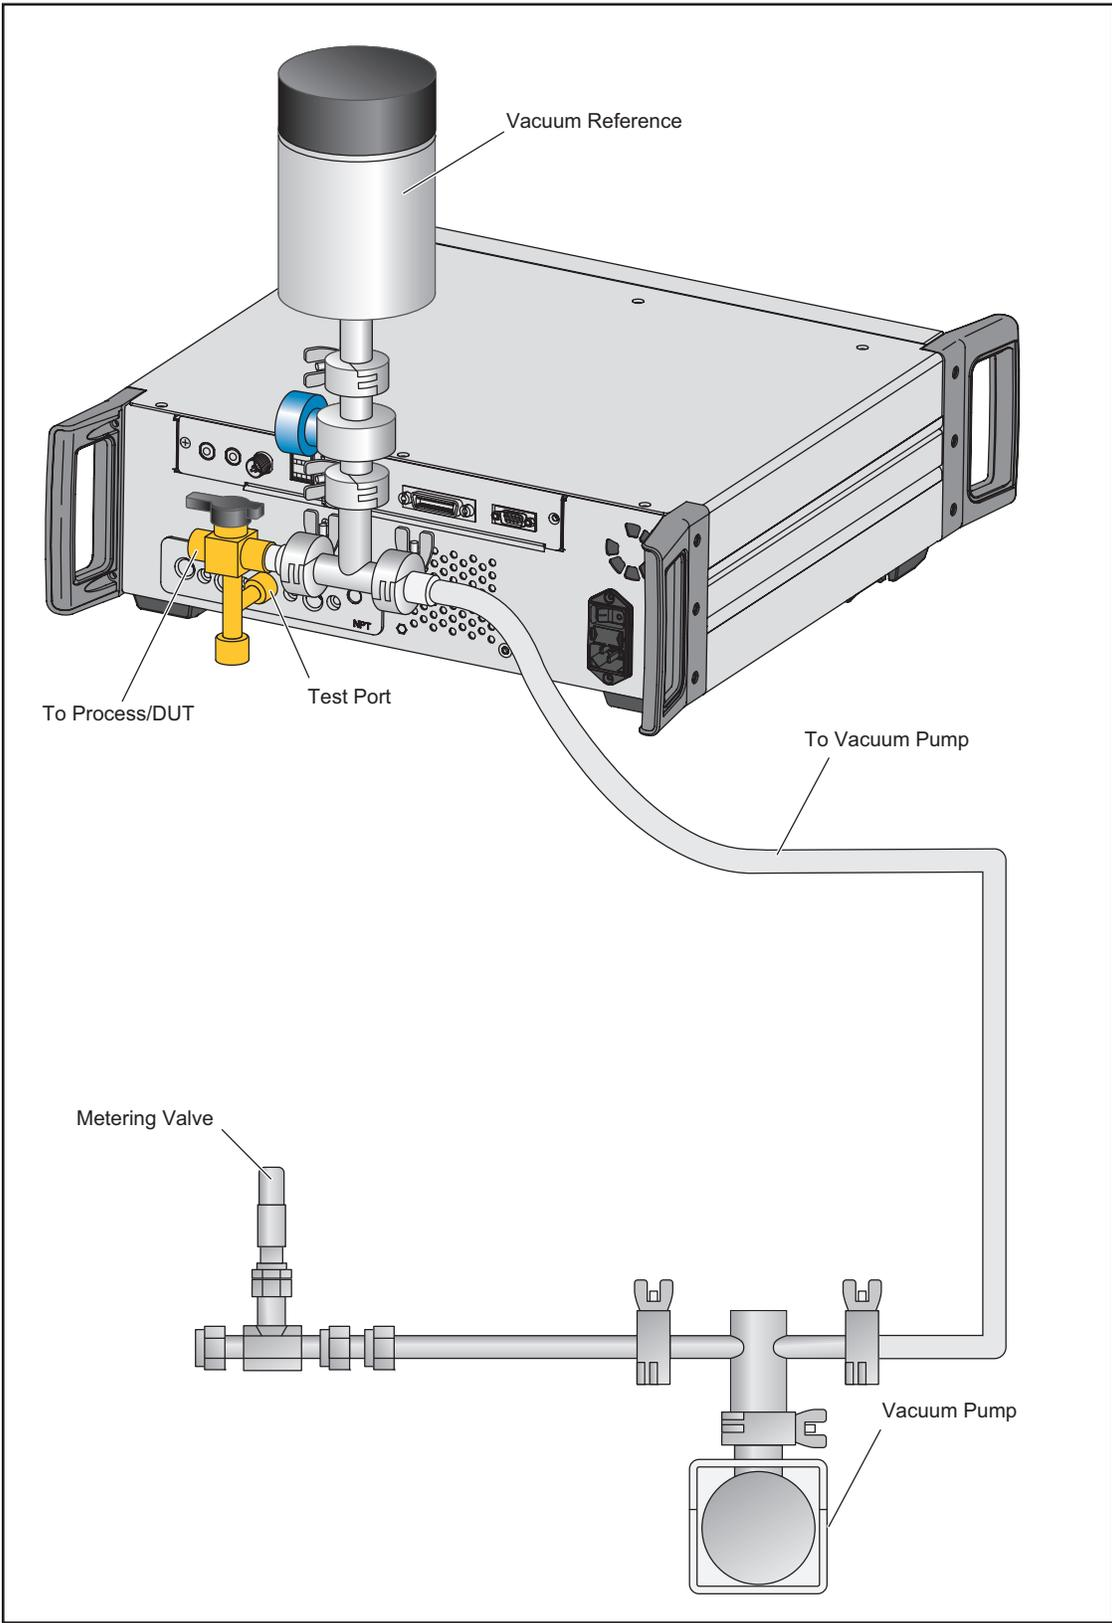

Figure 9. Zero by Vacuum Setup
6. Connect the vacuum sensor, vacuum source, bleed valve, and applicable hardware and tubing to the Test Port of the Product. Figure 9 shows an example setup. Connect the bleed valve as close to the vacuum pump as possible and the reference vacuum sensor as close as possible to the test port.
An optional 3-way ball valve can be installed at the test port (Figure 9). This setup keeps the vacuum sensor in-situ with the ability to isolate the vacuum sensor when not being used to zero PMMs. When the vacuum sensor is isolated, the test port can be used for other processes.
The HC20 test port has an M20 X1.5 female thread and an O-ring inside. It is easy to connect UUTs which have M20 X 1.5 male threads. The M20 test ports have varied adapters, which are used to connect different UUTs with other male threads, such as NPT or BSP M14 X 1.5. These adapters seal on an O-ring and thus do not require PTFE tape. See Figure 9.